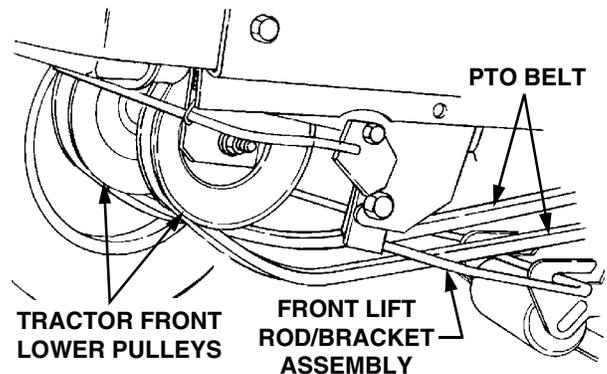

Figure 38
14. Twist the PTO belt 1/4 turn to engage the narrow sides of the belt into the grooves of the two tractor front-lower pulleys (Refer to Figure 38).